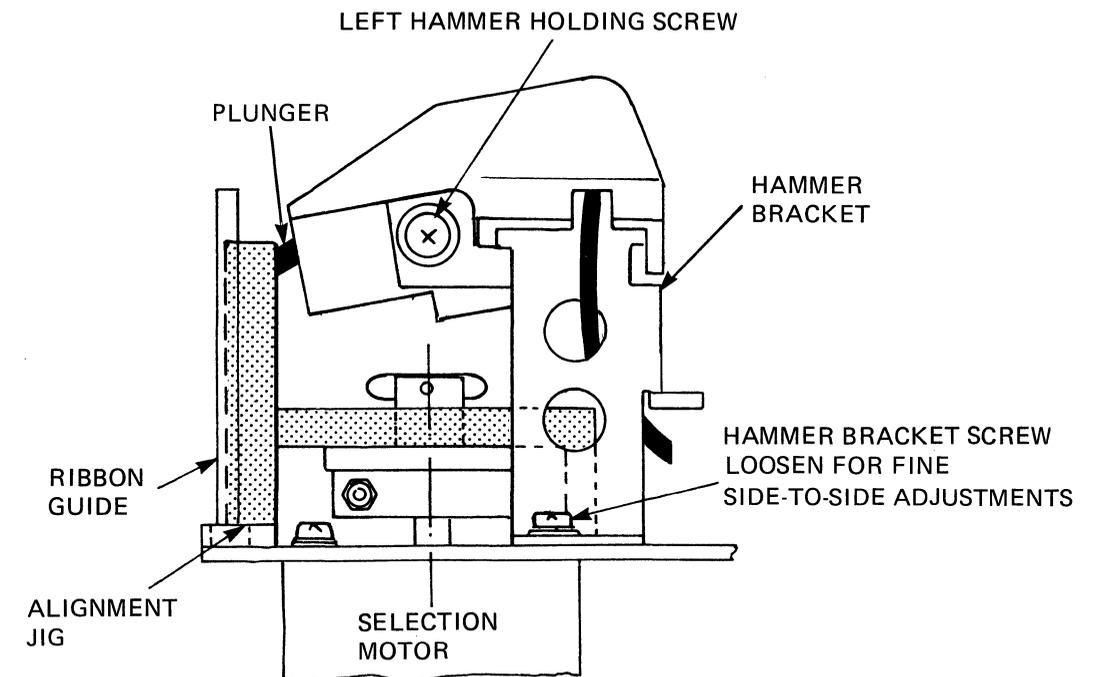

Figure 5-1 Hammer Adjustments
- d. Loosen the holding screws on both sides of the hammer assembly (see Figure 5-1) and adjust the hammer assembly so that the end of the hammer is aligned with the edges of the jig (see Figure 5-2A). Different age hammer assemblies are adjusted differently. Early model hammer assemblies are identified by a black-anodized finish (see Figure 5-2B). Later model hammer assemblies have a gold finish. Adjust both hammers to be level with the top edge of the alignment jig (see Figure 5-2C).